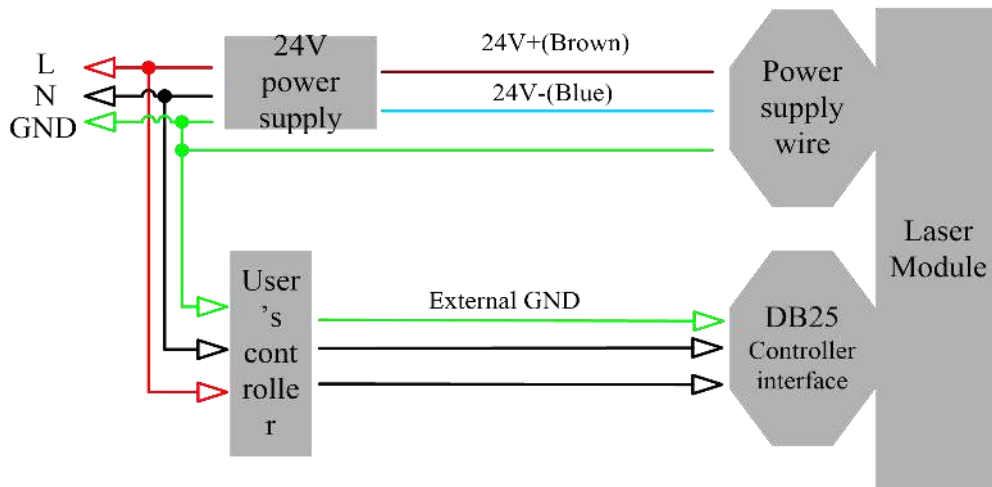

Figure 4 Schematic of recommended electrical connection
- c) Make sure that the interface of the external controller matches the laser and the control cable is well connected to the laser's interface. The recommended electrical connection is shown in Fig. 4.